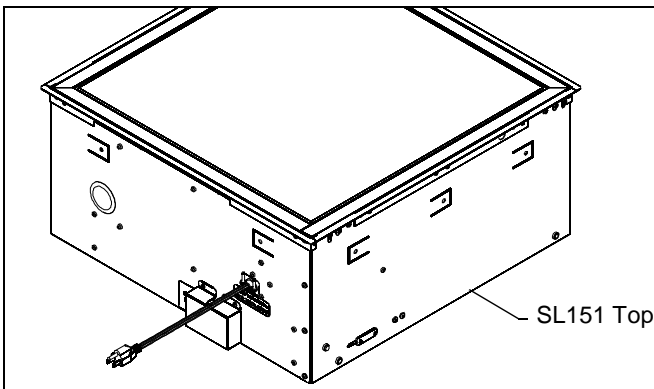

Figure 1
- Place SL151 upside down on clean surface. (See Figure 1)